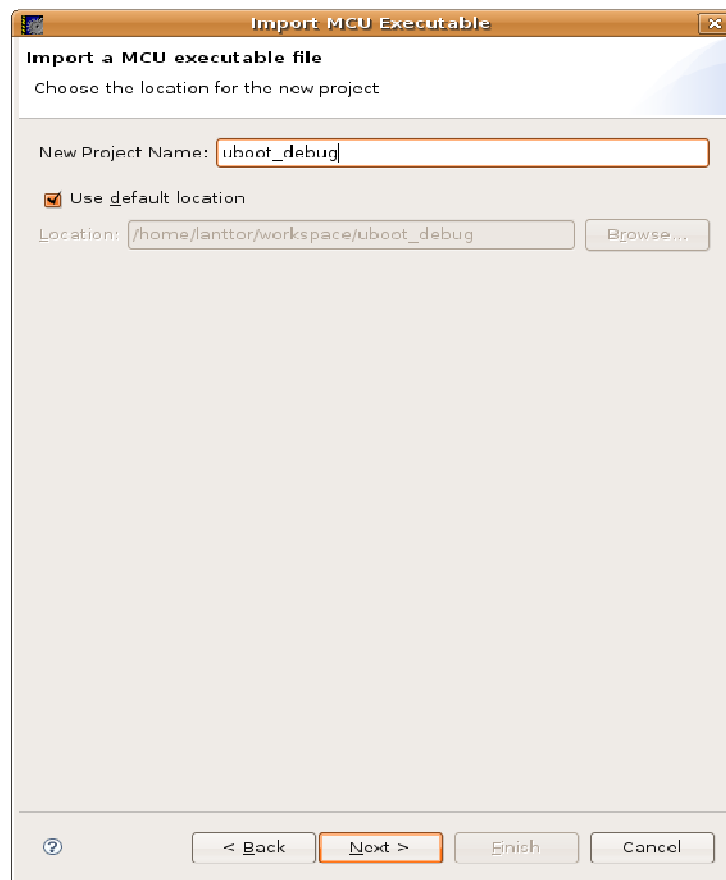

Figure-2 Import MCU Executable
4) Specify a name in the New Project Name text box. Click Next. Please refer to Figure-2.